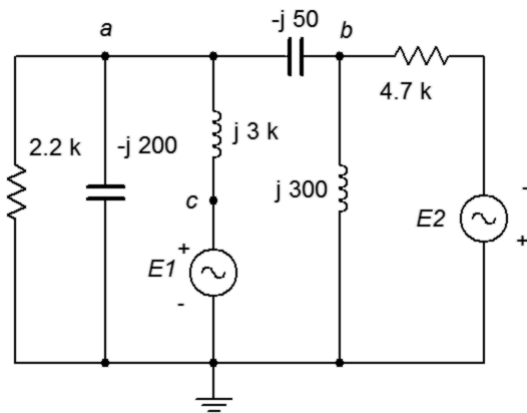

Figure 5.4
7. Use Superposition to find the current through the $2.2\text{ k}\Omega$ resistor for the circuit of Figure 5.4. $E1 = 1\angle 0^\circ$ and $E2 = 10\angle 90^\circ$.
8. Use Superposition to find v_{ab} for In the circuit of Figure 5.4. $E1 = 1\angle 0^\circ$ and $E2 = 2\angle 45^\circ$.